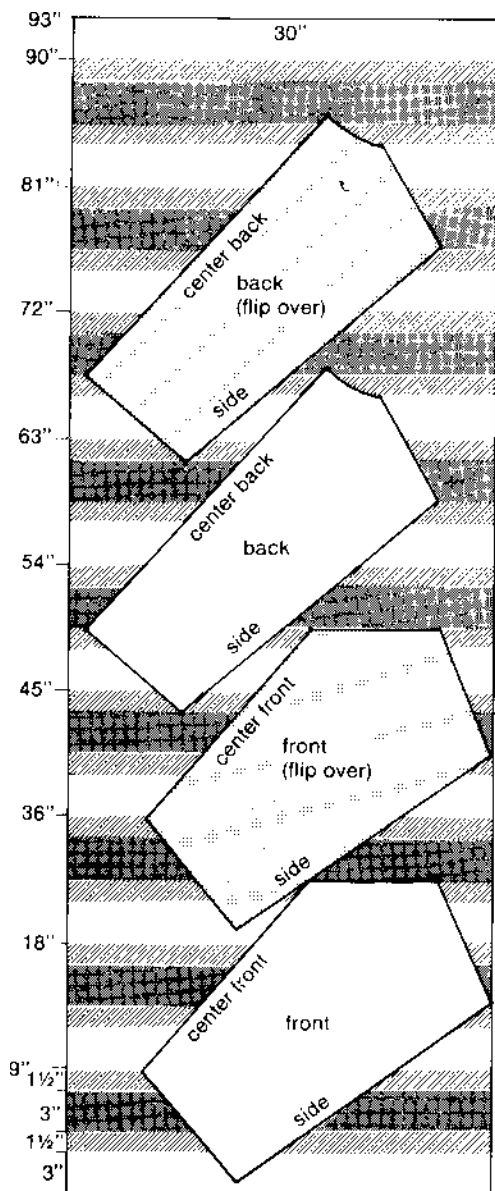

FIGURE 3. Layout with identical stripes on each pair of pieces. Note that one back and one front must be turned over after cutting.
**Finishing:** Wash the woven cloth before cutting the pattern. This is the type of garment for which a basic pattern made out of muslim is a must. Fig. 3 shows the approximate layout of the 4 main pattern pieces of the bodice. The cutting has to be very precise so that the stripes match up into perfect V patterns.